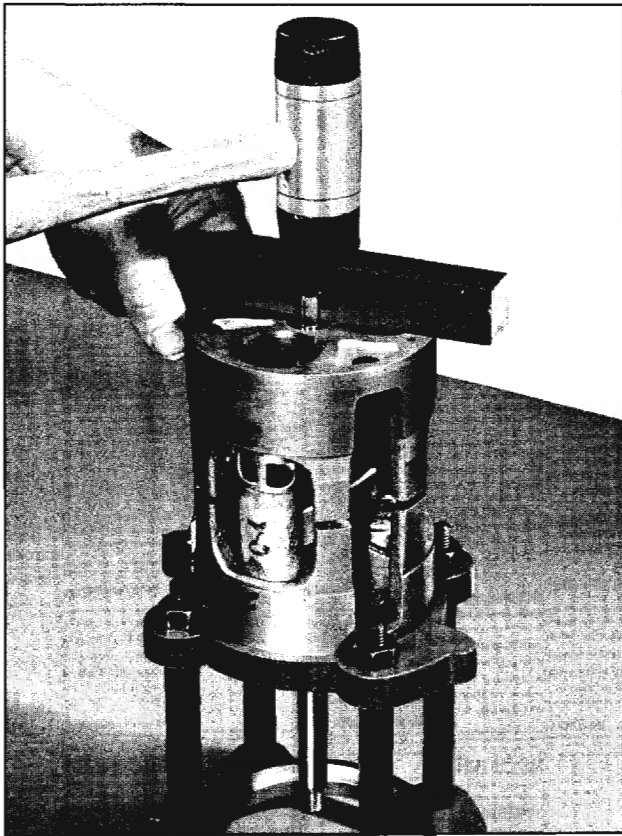

Fig. 15-79 Assembling Cylinder Halves
21. Rotate the shaft to position the pistons in a "stair step" arrangement. Place the rear half of the cylinder over the shaft and start the pistons and rings into the cylinder bores. When all parts are in proper alignment, tap rear cylinder with a wood block and mallet to seat the rear cylinder over the locating dowel pins. (Fig. 15-79)